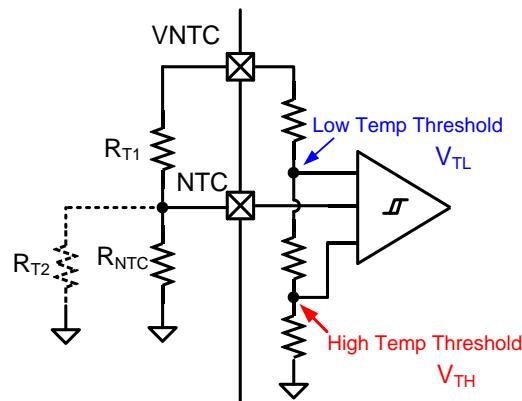

Figure 16: NTC Function Block
Figure 16 shows that an internal resistor divider sets the low temperature threshold (V_{TL}) and high temperature threshold (V_{TH}) at $66.2\% \cdot V_{SYS}$ and $35.7\% \cdot V_{SYS}$, respectively. For a given NTC thermistor, select an appropriate R_{T1} and R_{T2} to set the NTC window with Equation (8) and Equation (9):